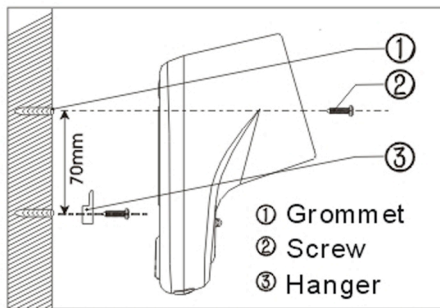

Fig 2.
- 2.5 Mark and drill 6mm diameter by 35mm deep holes per Fig 2.
- 2.6 Attach the base using the screws and plugs provided. Refer to Fig. 2.
- 2.9 Fit the base per Fig. 2. Insert the grommets into the drilled holes; screw the unit into place as per Fig 2.